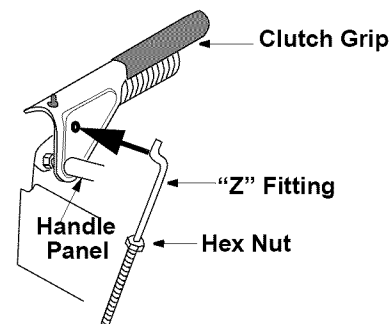

Figure 9
- Thread the jam nuts all the way up each of the "Z" fittings, toward the handle panel. See Figure 9.
- Thread the coupling end of the cable onto the threaded portion of the "Z" fitting until the rubber bumper (located on the underside of the clutch lever) only lightly contacts the upper handle. Refer to Figure 9.
- Take a "Z" fitting from the hardware pack and insert the Z end into the hole on the left clutch grip on the handle panel. See Figure 9. Thread a hex nut from hardware pack on to the Z fitting.